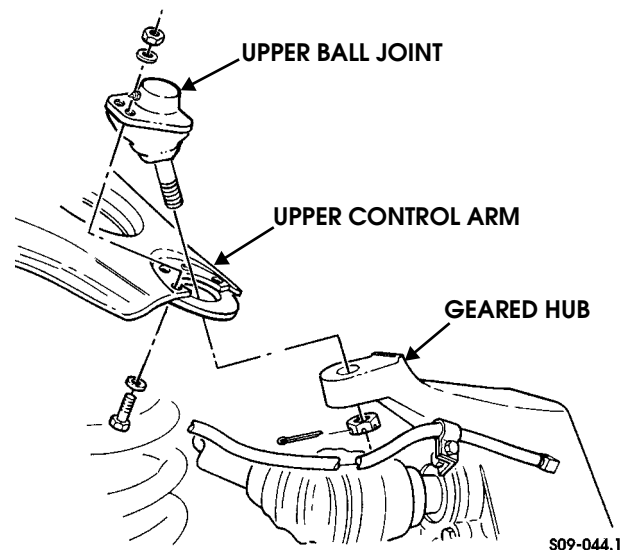

Figure 9-5: Upper Ball Joint Replacement
3. Remove cotter pin and slotted nut from upper ball joint (Figure 9-5).
1. Position upper ball joint on upper control arm, ensuring upper ball joint is placed above upper control arm (Figure 9-5).